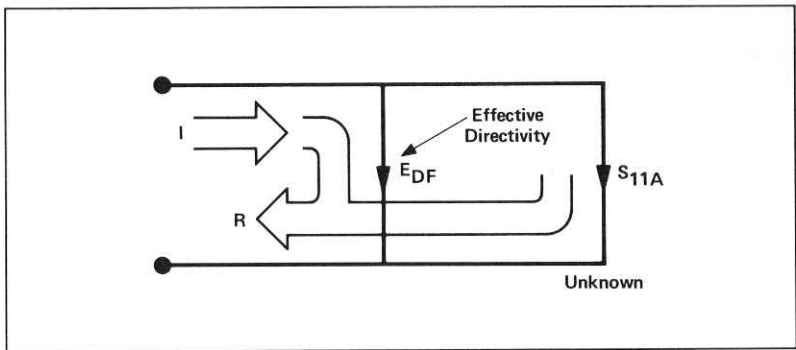

Figure A5-3
However, all of the incident signal does not always reach the unknown (see Figure A5-3). Some of (I) may appear at the measurement system input due to leakage through the test set or other signal separation device. Also, some of (I) may be reflected by imperfect adapters between signal separation and the measurement plane. The vector sum of the leakage and miscellaneous reflections is directivity, EDF. Understandably, the measurement is distorted when the directivity signal combines vectorally with the actual reflected signal from the unknown, S11A.